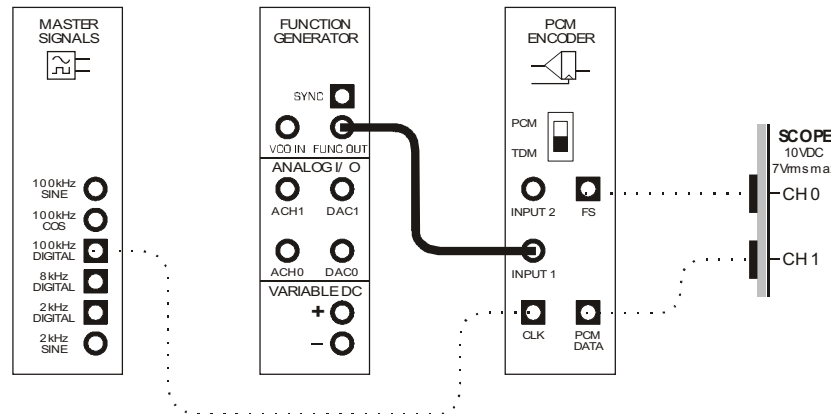

Figure 3
22. Modify the set-up as shown in Figure 3 below.